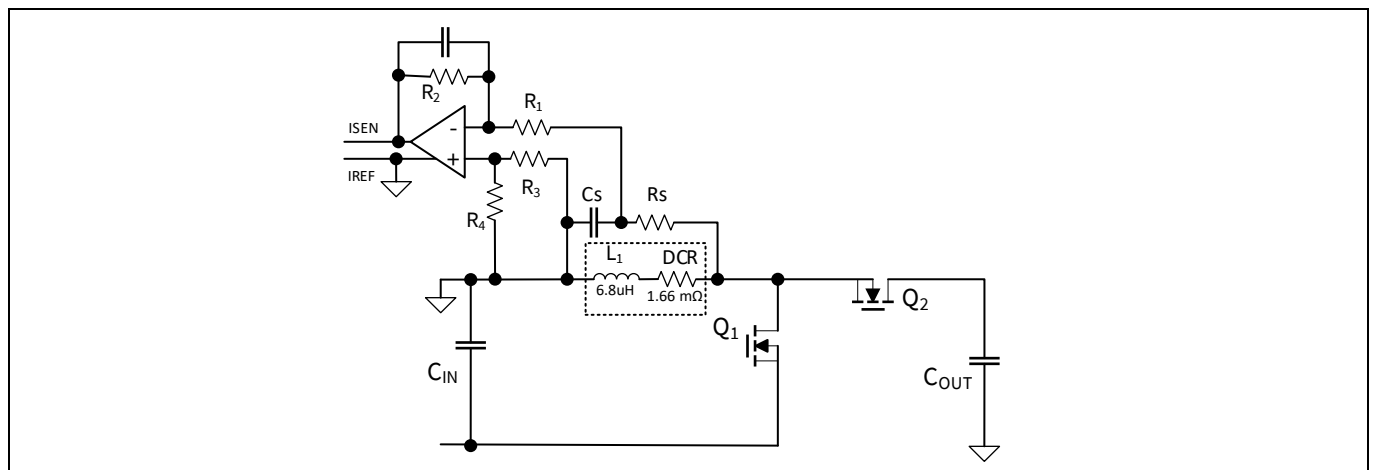

Figure 15 DCR current sense circuit
DCR current sense (CS) is often used in high-current applications. It uses the DCR of the inductor as an inherent shunt resistor, eliminating the cost and additional power loss of the shunt resistor. This design puts the IC reference ground to the return of the -48 V input, making it convenient to sense output voltage with positive polarity. It is also easy to implement the DCR CS circuit, as one end of the inductor is grounded. The DCR sensing circuit is shown in Figure 15.
In **Figure 15**, $R_1 = R_3 = 100 \text{ k}\Omega$, $R_2 = R_4 = 560 \text{ k}\Omega$ for gain 5.6.